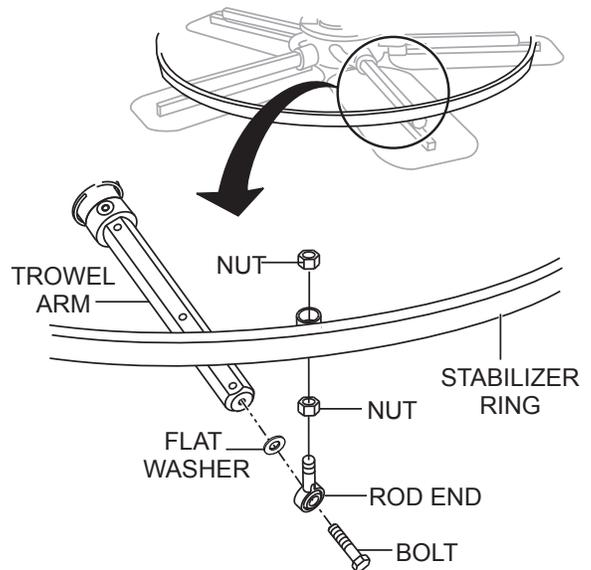

Figure 35. Stabilizer Ring Removal
1. Remove and retain the hardware securing the stabilizer ring to the trowel arms (Figure 35).